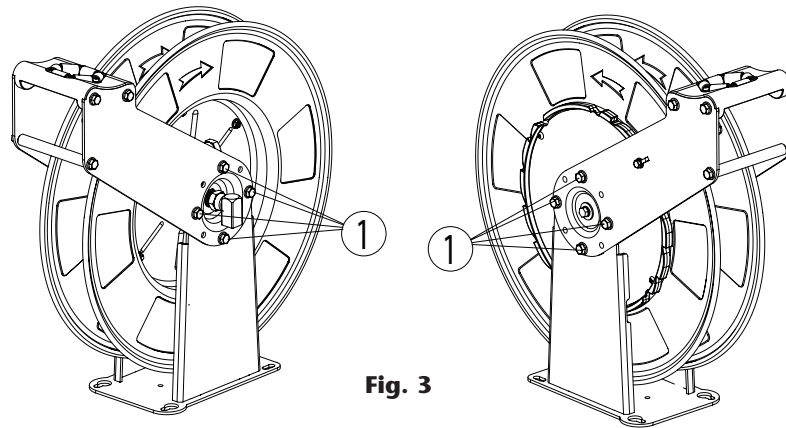

Fig. 3
To move the hose guide arms and the hose outlet mouth, it is necessary to remove screws (1) (fig. 3). The spool and the hose